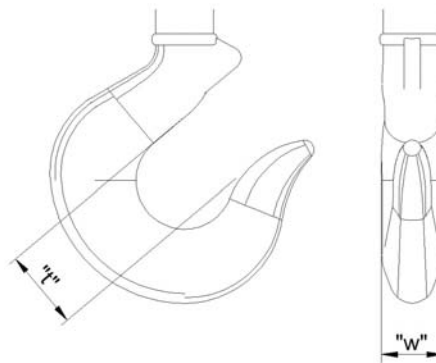

Figure 51 – Hook Throat Admittance
- Check the hook throat admittance (see Figure 51). Replace the complete bottom block where "t" max has been exceeded.